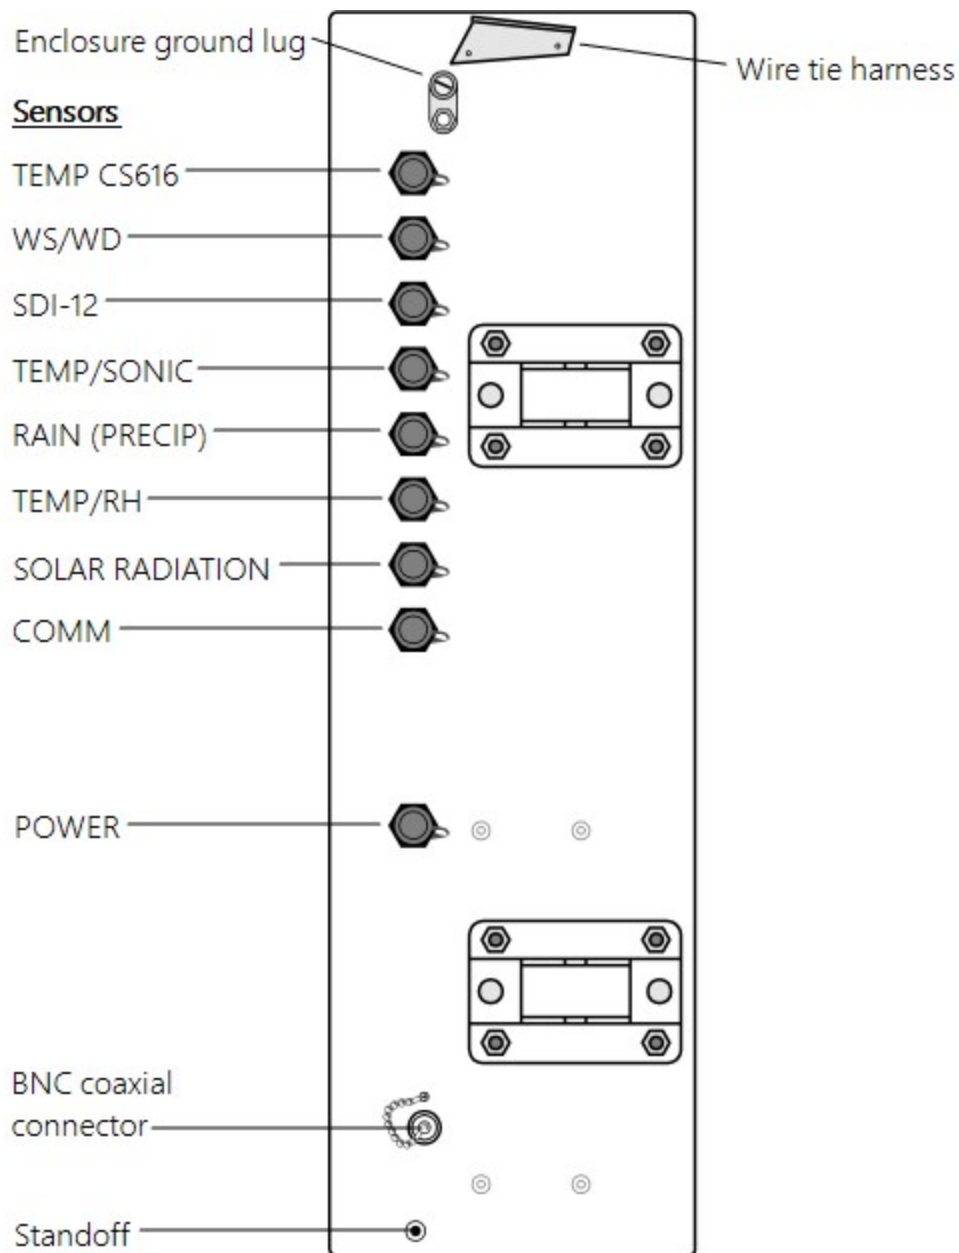

FIGURE 6-6. Position of bulkhead connectors
7. Connect the power plug to the POWER connector on the back of the enclosure (FIGURE 6-6 (p. 20)). Ensure that the plug is completely seated on the connector and the locking ring is turned a quarter revolution clockwise.
Each sensor cable plug attaches to a unique bulkhead connector (FIGURE 6-6 (p. 20) and FIGURE 6-21 (p. 34)). The labelling of the sensor cables match the labeling on the back of the enclosure. For more information, refer to Sensor schematics (p. 69).